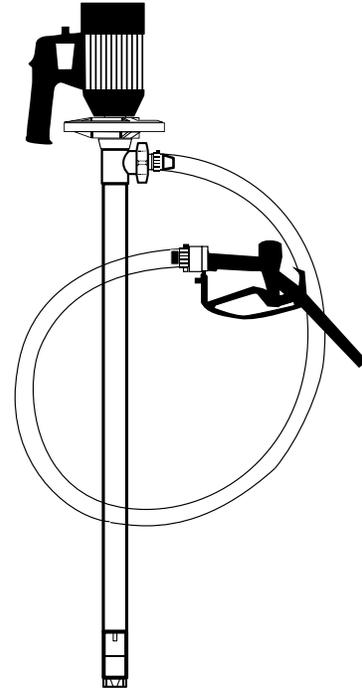

Figure 13
1. Once pump ( see Figure 13) is fully assembled and all connections are securely fastened, insert the pump into the drum of liquid.